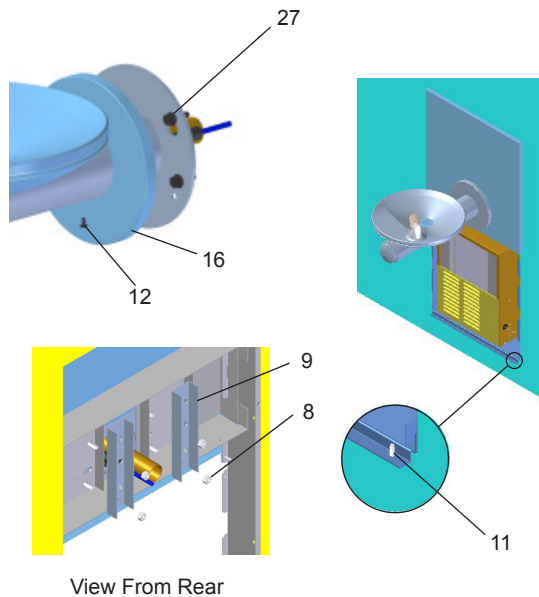
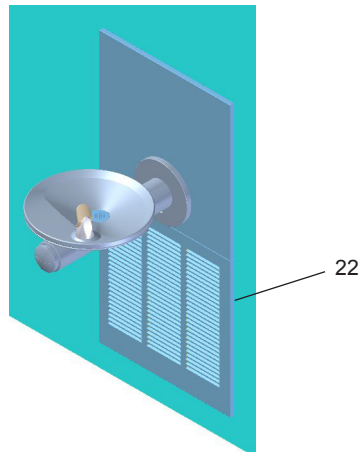

Figure 6 - Fountain Installation
Figure 7 - Lower Panel Installation
6. **Install** the fountain. Remove the screw (Item 12) from cover plate (Item 16) and slide cover plate toward basin. Mount the fountain to the upper panel and frame with (4) 5/16" x 1" (25mm) long bolts (Item 27), bracket (Item 9) and nuts (Item 8) provided. Tighten securely. **Brackets (Item 9) must be installed as shown to properly support fountain.** (See Figure 6)
12. **Mount lower panel.** Loosen the two (2) #10-24 x 5/8" (16mm) screws (Item 11 - Figure 6) at frame bottom lip. Slide upper tongue of lower panel under lower edge of already installed upper panel. Tighten previously loosened screws securely. (See Figure 7)